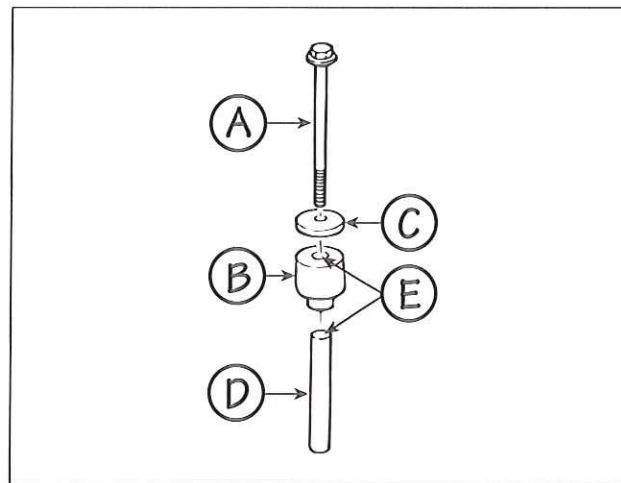

FIG. 32
1. Lubricate the valve cover limiting sleeves (D) with clean silicone spray. Insert the sleeves into the isolators (B) until the end of the sleeve is flush with the isolator (E) (see Fig. 32).
2. Install the hold-down bolts (A, Fig. 32), with washers (C) installed, to the limiting sleeves (D).